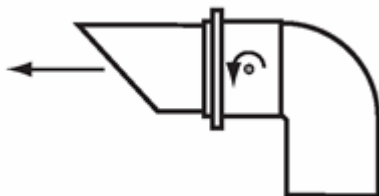

Fig. 21p
17. To do this, first slacken the two screws retaining the plume outlet to the elbow, and remove the outlet (Fig. 21p). The elbow can now be used to connect the